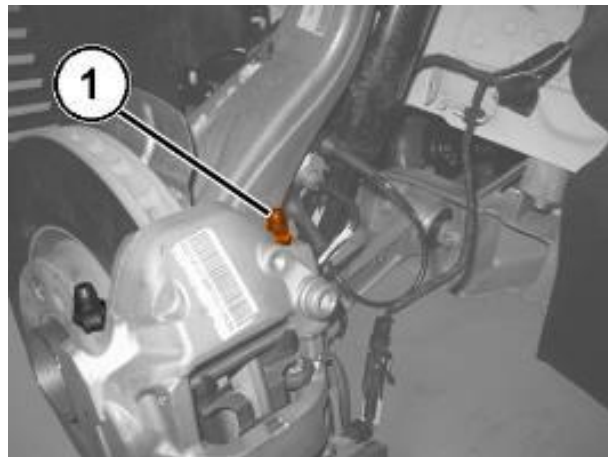

Figure 112 – Brake Bleeder Valve
86. Working at the right front caliper, position the brake fluid recovery hose to the INNER bleeder screw (1) and to the recovery container. Open the INNER bleeder screw (1) and without applying any pedal pressure on the system, allow a small amount of brake fluid to drain into the recovery container. Then tighten the bleeder screw and remove the recovery hose (Figure 112).
90. Working at the left front caliper, position the brake fluid recovery hose to the INNER bleeder screw (1) and to the recovery container. Open the bleeder screw and slowly press the brake pedal down fully three or more times, until there are no more air bubbles in the recovery hose. Then tighten the bleed valve to the prescribed torque of 10 N·m (89 In. lbs.) (Figure 112).